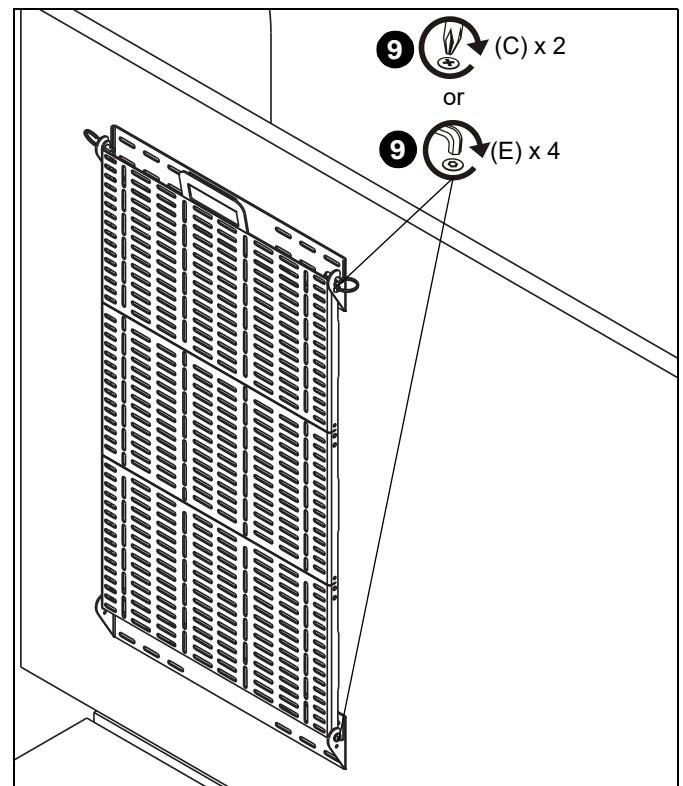

Figure 7
9. Tighten all screws (C) or (E) holding accessory desk plate (A) to desk brackets (B). (See Figure 7)